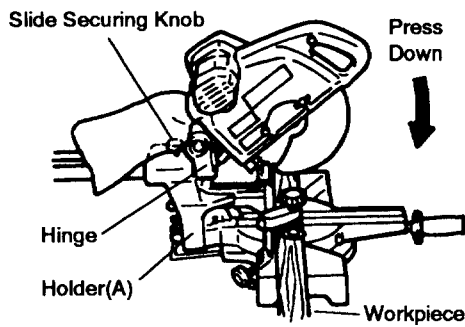

Fig. 22
Slide the hinge down to holder (A), then tighten the slide securing knob as indicated in Fig. 22. Lower the handle to cut the workpiece. Using the power tool this way will permit cutting of workpieces of up to 3- 11/32"(85mm) square.